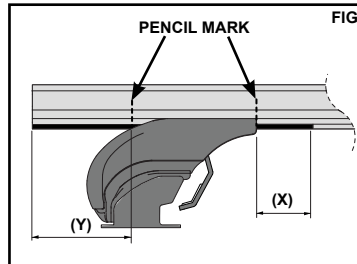

FIG 3
2. Attach the End Support on two Adaptor Plates on the tub shutter channel directly above the Brass Nut and insert the Security Bolt and Washer (Fig. 2). Your End Support should look like Figure 3. Do not fully tighten yet.
1. With the Cross Bar loosely positioned symmetrically between the End Supports, mark up the location of the End Support against the gaps requiring coverage, using a lead pencil. Using a rule, measure the distances for (X) and (Y) as shown in Figure 3.